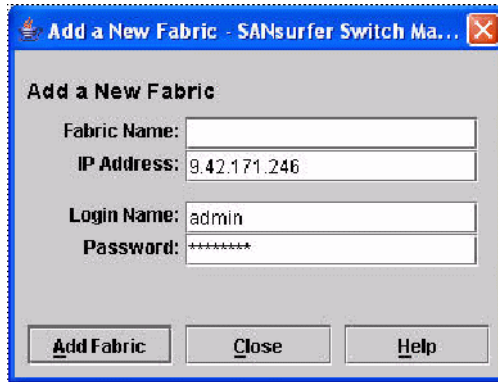

Figure 7-3 Add a New Fabric window
3. Enter the IP Address for the switch in the IP Address field (Figure 7-3). Enter the user name and password and click **Add Fabric** to continue.